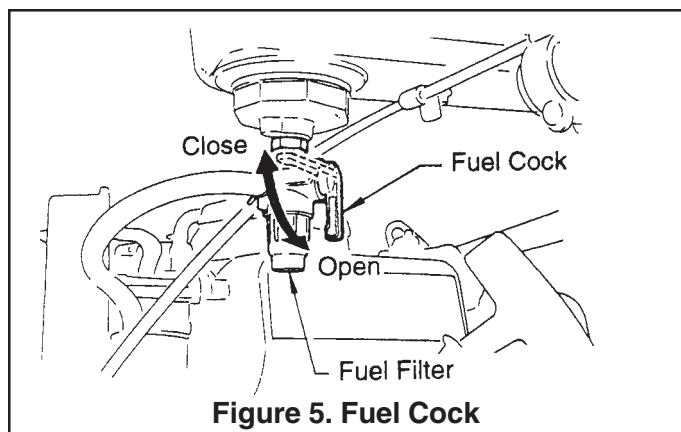

Figure 5. Fuel Cock
1. Open the fuel shut-off valve by moving the **fuel cock** lever to the **open** position (Figure 5).
2. Close the fuel shut-off valve by moving the fuel cock lever to the **CLOSED** position. See Figure 5.